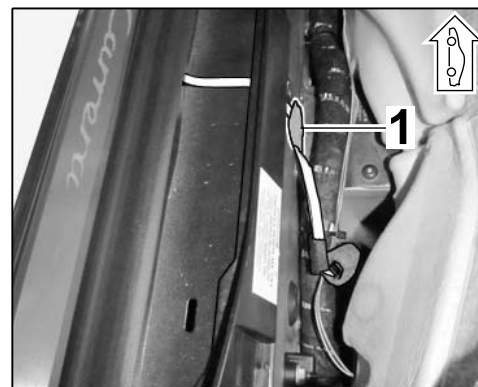

Figure 18
- 3.4.3 Clean the adhesive pad bonding area on the body ⇒ *Figure 18 -1-* using commercially available cleaning agents to remove any dust and grease.